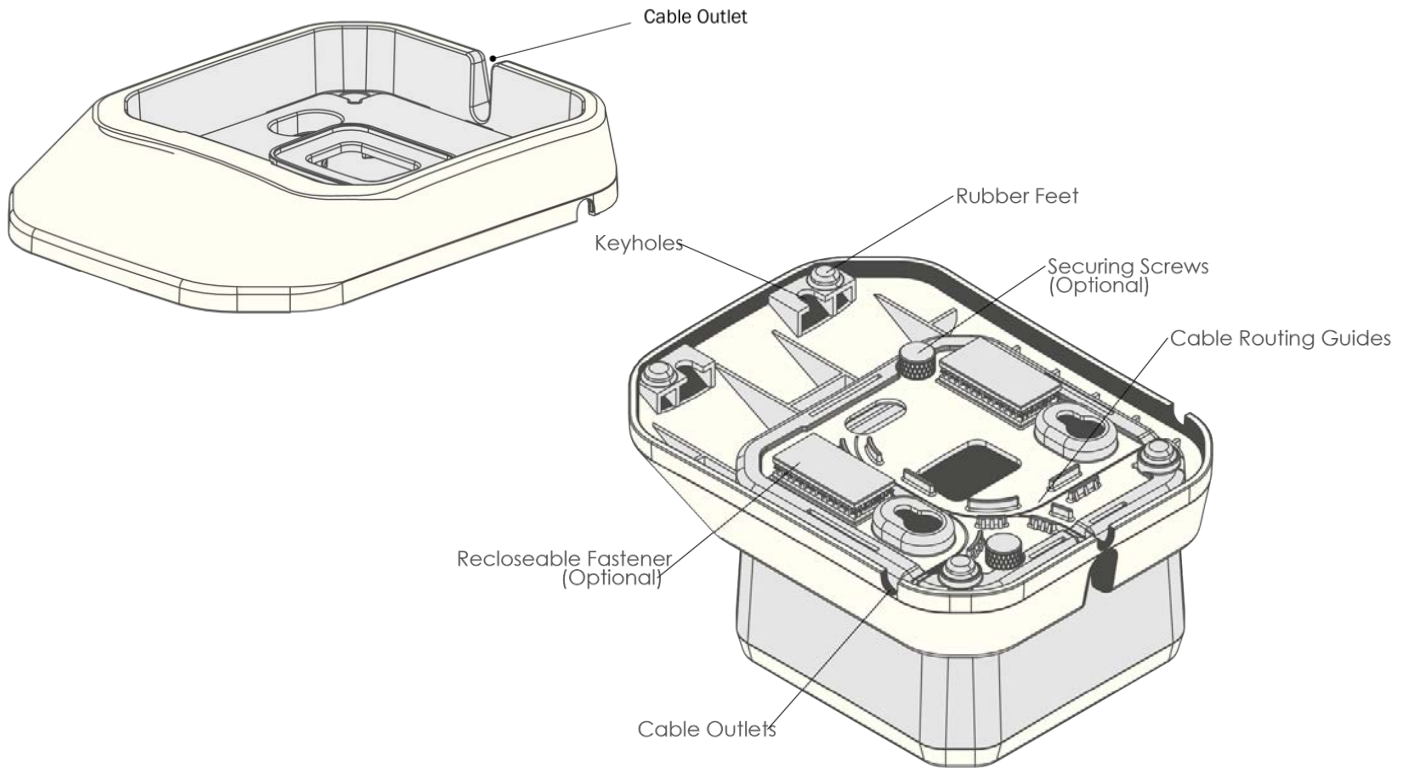
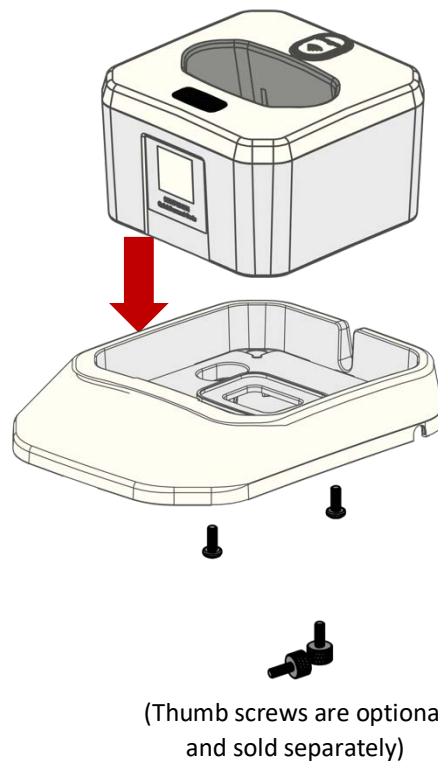
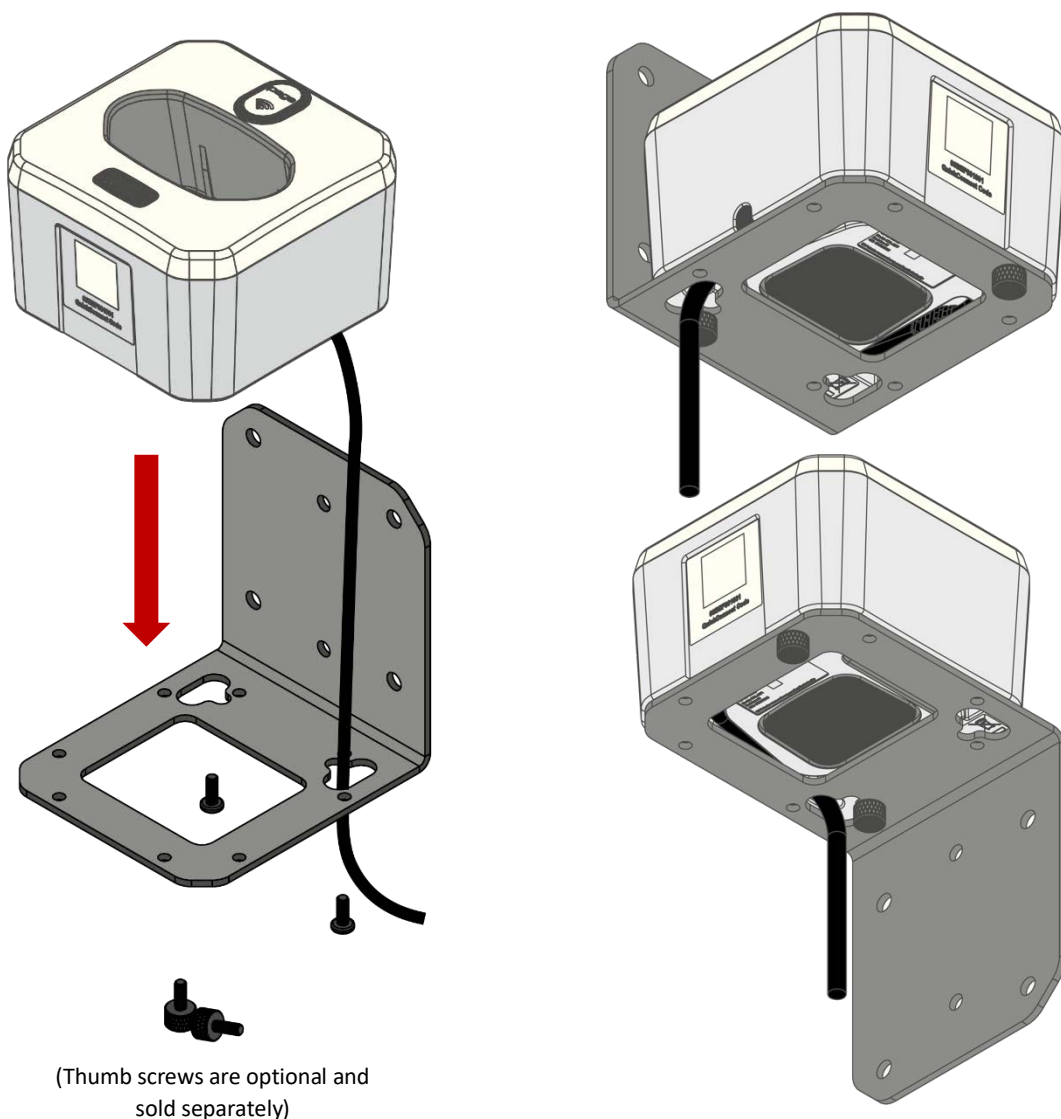

Figure 4 CRA-MB6 Desktop Base Features
Figure 8 Install and Secure Desktop Base CRA-MB6
Figure 9 Install Charging Station with Wall Mount Bracket CRA-WMB4
5.8.2. Run the cable along the cable routing guides on the bottom of the charging station. If the charging station will be placed into a desktop base (CRA-MB6), the cable should exit through the opening in the back of the charging station (see Figure 8). If the charging station will be mounted on a wall mount bracket (CRA-WMB4) or a VESA mount bracket (CRA-MB7), thread the cable through one of the two cable exit holes on the bracket (see Figure 9 or 10)
The Desktop Mount provides extra charger stability when the charger is free standing on a counter or desk. Place the charging station into a desktop base (CRA-MB6) (Figure 8). The charging station can be secured onto the base using two pan head screws supplied with the desktop base. The desktop base can be fastened onto a flat surface using included multi-use adhesive tape, if desired (see Figure 4 for locations to attach the tape). Additional adhesive tape (CRA-CR27-02 or CRA-CR27-10) is available as an accessory.
The charging station can be mounted onto a wall using the wall mount bracket (CRA-WMB4). Mount the bracket to a wall using four #10 (M4 or M5) size screws (not provided). The wall mount bracket can be mounted in upward or downward position depending on application (Figure 9). There are three positions that the charging station can be affixed onto the bracket. Choose a position suitable for your workflow, thread the USB cable through one of the two cable exit holes on the bracket, and attach the charging station onto the bracket using two screws supplied with the wall mount bracket. Optional thumb screws (CRA-CR27-01) are available to mount the charging station without using a screwdriver.